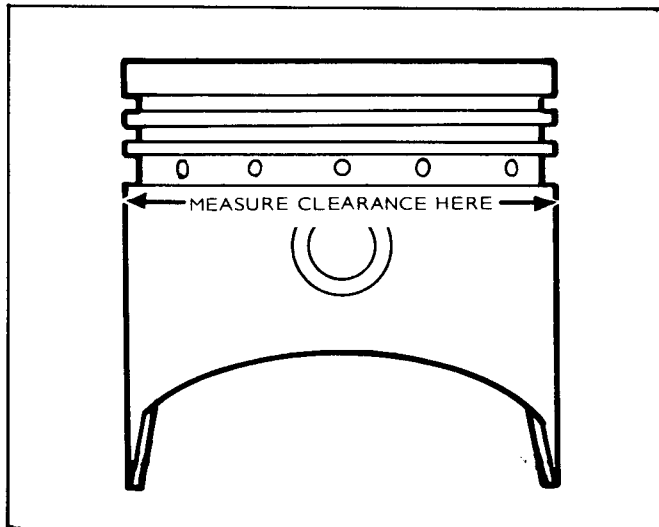

FIGURE 11. MEASURING PISTON CLEARANCE
- b. Measure the piston as shown in Figure 11 to be sure the total piston-to-cylinder clearance follows specifications.